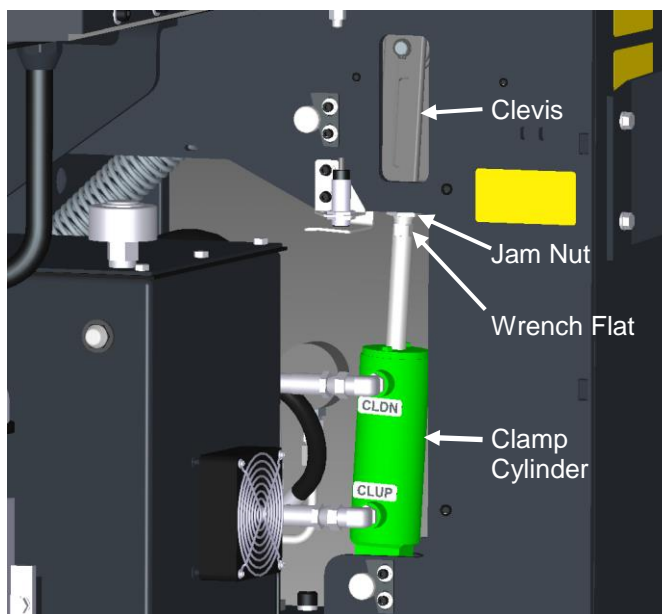

Figure 41
3. Loosen the jam nut (Figure 41).